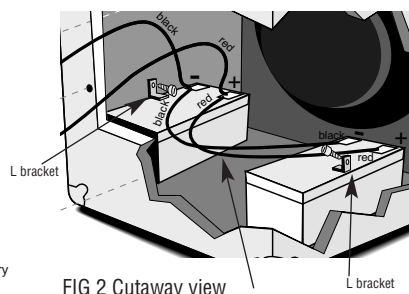

FIG 2 Cutaway view
- B) Locate the battery mounted on the left side of the cabinet FIG 2 and remove the L bracket. Simply pull the wires from the positive and negative battery terminals on the old battery and reconnect your new battery (B400). Be sure to match negative (-) to negative and positive (+) to positive. Black is used for negative (-) and red for positive (+). Be sure not to short the battery terminals with a screwdriver or “sparks will fly” with possible damage to the battery.